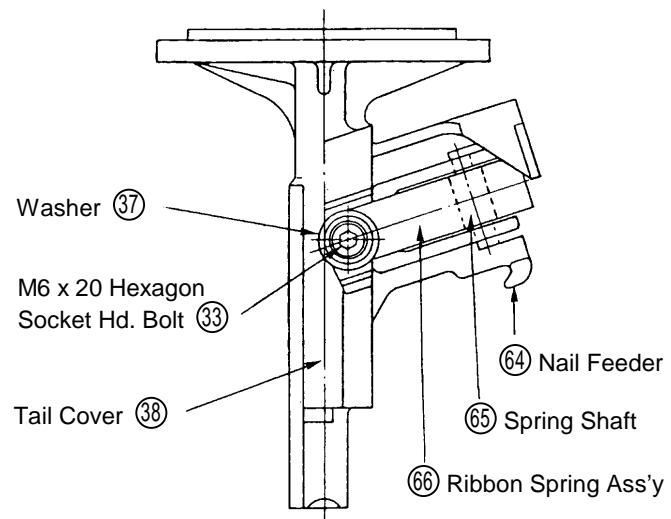

Fig. 16 Mounting of the Nail Feeder
- II) Connect the Push Lever Ass'y ⑤0 to the Body (B) Ass'y ②6 with the D3 x 30 Roll Pin ④7.
- III) Temporarily attach the Ribbon Spring Ass'y ⑥6 and Nail Feeder ⑥4 to the Tail Cover ③8 with the M6 x 20 Hexagon Socket Hd. Bolts ③3 (please note that this step is not necessary if the front-side M6 x 20 Hexagon Socket Hd. Bolt ③3 was only loosened and not fully removed during reassembly [refer to Fig. 16]), and assemble the Magazine Base Ass'y ⑥0 (refer to Para. 1-3- (1)).
- As illustrated in Fig. 16, temporarily fix the Ribbon Spring Ass'y ⑥6, Spring Shaft ⑥5 and Nail Feeder ⑥4 onto the Tail Cover ③8 with the front-side M6 x 20 Hexagon Socket Hd. Bolt ③3, and slide the Magazine Base Ass'y ⑥9 onto the Tail Cover ③8. Then, secure the assembly by tightening the M6 x 20 Hexagon Socket Hd. Bolt ③3 on the Guard ③6 side and the two M5 x 25 Hexagon Socket Hd. Bolts ⑦2 to rated torque (see Para. 1-4).
- Finally, loosen the front-side M6 x 20 Hexagon Socket Hd. Bolt ③3, shift the Nail Feeder ⑥4 fully back into the magazine, ensure the Magazine Base Ass'y ⑥9 is properly aligned, and tighten the front-side M6 x 20 Hexagon Socket Hd. Bolt ③3 to rated torque (see Para. 1-4)
(2) Stop Lever ⑦4, Stopper Spring ⑦6, and Related Parts: